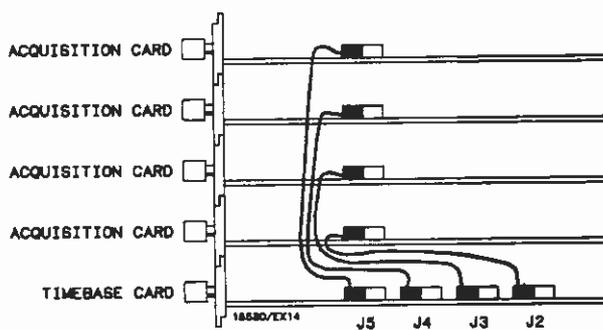

Figure A-8. Card and Cable Configuration
- f. Use figure A-8 to plan the card configuration and cable connection.